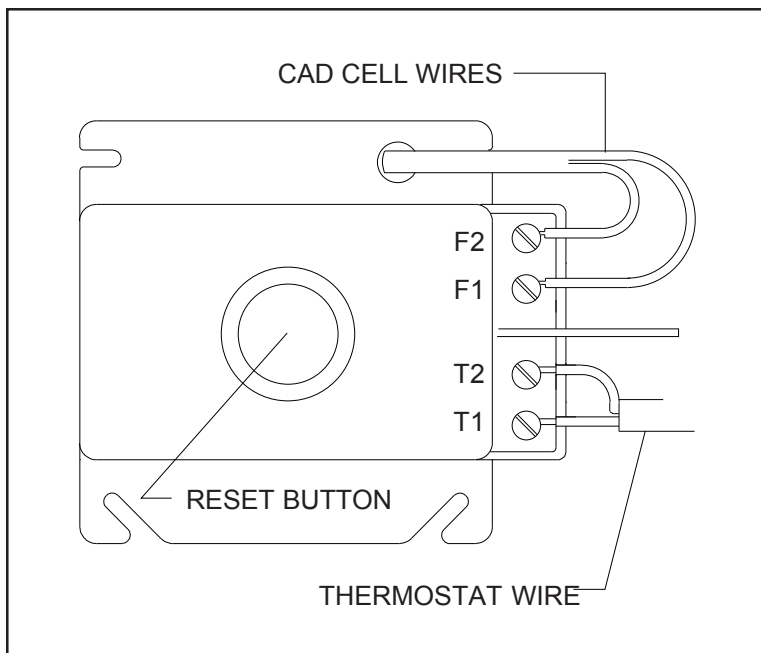

FIGURE 7A - Oil Primary Control
1. Refer to Figure 7A.
4. When you are sure all mist has been cleared from the chamber and the combustion chamber is cool, depress the red button on the primary control for a minimum of three (3) seconds, then release. Reset the control **ONCE ONLY**.
ATTENTION: *Never touch a jumper wire from an "F" terminal to a "T" terminal on the oil primary control. This will severely damage your primary control. Make sure the plastic barrier strip is in place between the "F" and "T" terminals as shown in Figure 7A.*